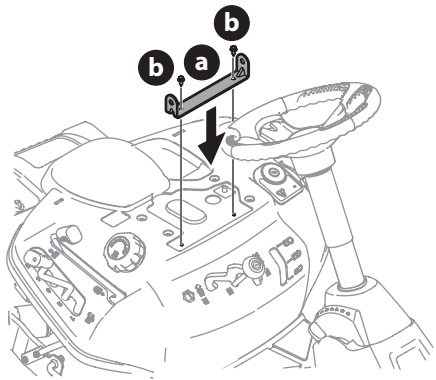

Figure 8
3. Align the seat bracket (a) in place over the holes from where the self-tapping bolts (b) were removed (Figure 8).
4. Using a 1/4" drive ratchet with a 3/8" socket, secure the seat bracket (a) with the self-tapping bolts (b) removed in Step 2 (Figure 8).